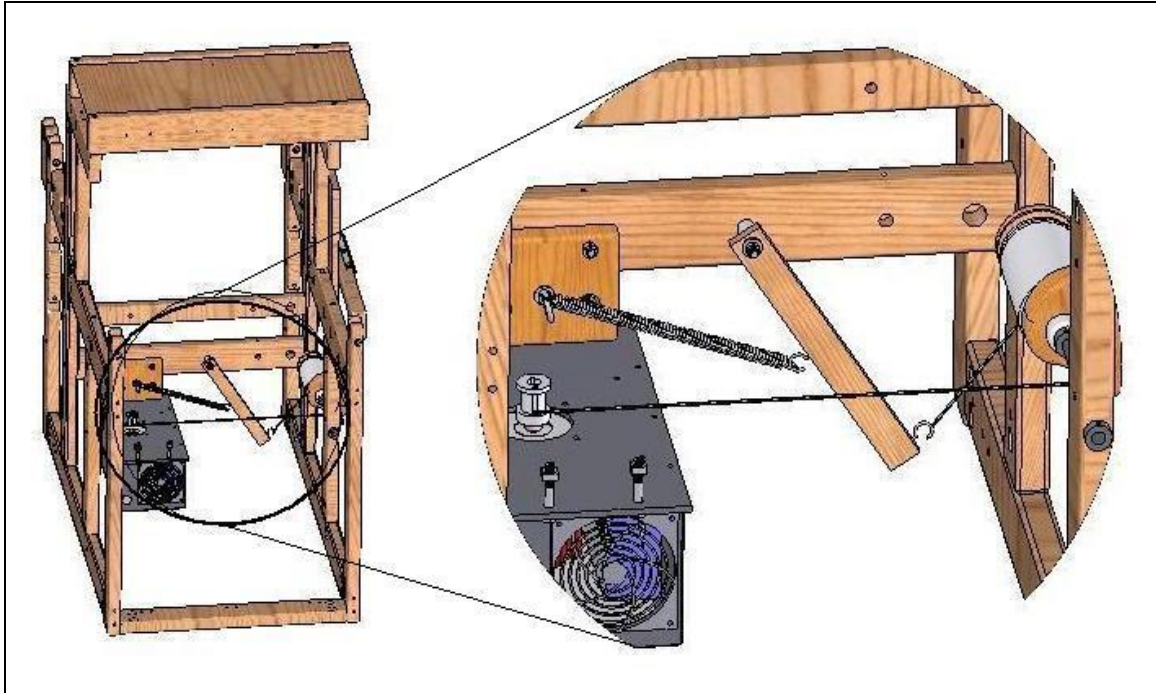
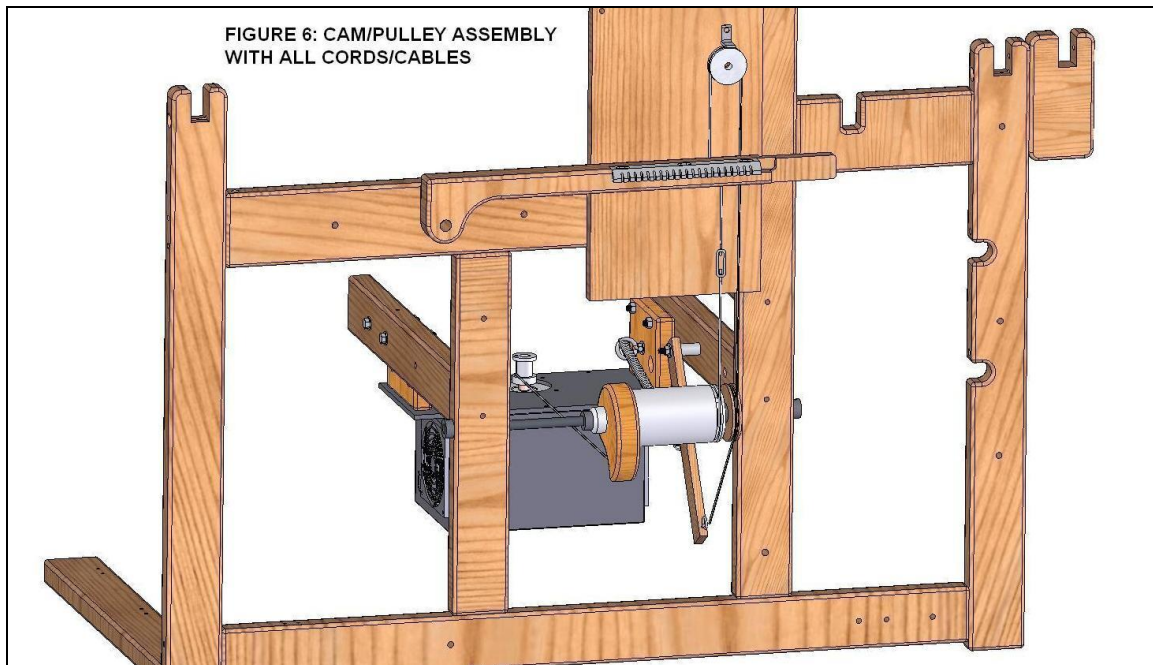

Figure 4 – Mounted Spring Lever Assembly
Figure 6 – Cables installed
4) Mount the Spring Lever Assembly – (see Figure 4) Into Hole #1, insert one (1) 5/16–18 x 3-1/2” Hex Bolt with one (1) 5/16 Washer, from the outside of the rear Crossmember and mount the Spring Lever Assembly onto it, on the inside of the Crossmember as follows:
2) Mount the Spring Assembly – (see Figure 4) On the inside of the loom, into the hole located in the mid-section of the rear Mounting Block, insert the 1/4-20 x 2-5/8 Eye Bolt, with one (1) 1/4-20 Hex Nut and one (1) 1/4" Washer. Secure it, on the outside of the
4) Replace Cam-Pulley Axle – (see Figure 6) Attach the Dobby Arm Cable to the new Cylinder, using the retainer to hold the Nico tip in place on the new Cylinder. Starting from your left, insert the Axle through Leg “A” so the end extends a few inches into the middle space between Legs “A” and “B”. As seen in Figure 4 and in this order, slide the following components onto the Axle:
5) Installing the Cables (see Figure 6)